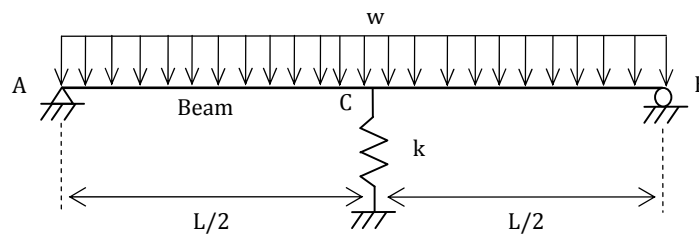

Fig. 2. A beam structure
2. As shown in Fig. 2, a beam structure (bending stiffness =  $EI$ ) of length  $L$  is supported by a spring (stiffness =  $k$ ) at mid-length and hinges at both ends.